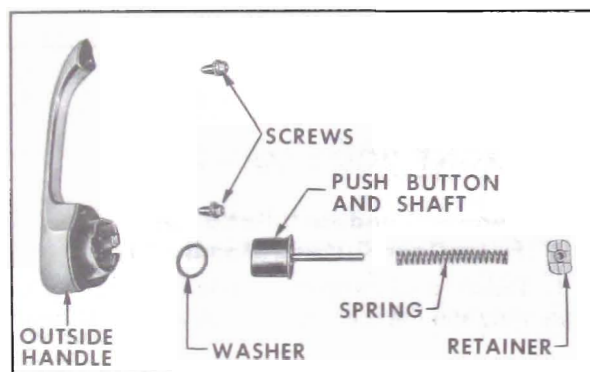

Figure 2-16—Front Door Outside Handle Assembly
2. Depress retainer slightly and turn retainer one quarter turn. Remove retainer, spring and push button and shaft from handle (see Figure 2-16).